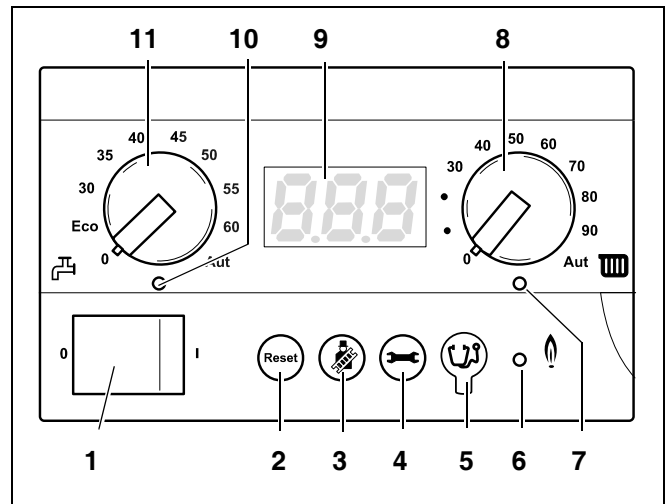

fig. 6 BC10 basic controller
The maximum CH (boiler) flow temperature (fig. 6, **item 8**) is used to set the upper CH (boiler) flow temperature limit. The unit is °C.
- Limit the maximum CH (boiler) flow temperature using the "CH (boiler) flow temperature" dial (fig. 6, **item 8**) to the permissible flow temperature of the floor heating circuit (usually maximum 40 °C).
The heating system status and values can be read out from the display (fig. 6, **item 9**). If a fault occurs the display will immediately show the accompanying fault code. The fault code display will flash if a locking fault is detected.
The DHW temperature dial (fig. 6, **item 11**) is used to select the required temperature of the hot water in the hot water cylinder. The unit is °C.
The "DHW mode" LED (fig. 6, **item 10**) lights up when a DHW request has occurred and it is extinguished when this DHW request is no longer required.